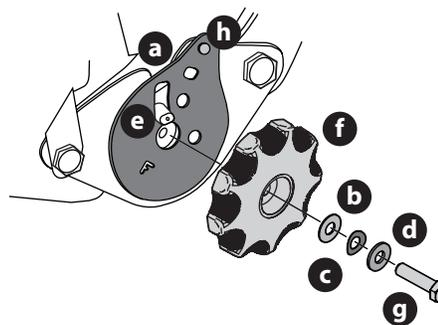

Figure 13
7. Remove the seat tilt knob assembly from the bag and install (Figure 13).
**NOTE:** Be sure to orient the recliner plate (a) and install the plastic washer (b), spring washer (c) and metal washer (d) (Figure 13). The plastic washer is on the inside.
8. Slide the recliner bearing plate (a) onto the recliner pin (e) (Figure 13).
10. Use a wrench to hand tighten the hex screw (g) until the recliner knob (f) is difficult to turn (Figure 13).
11. Gradually loosen the hex screw (g) until the recliner knob moves freely. Do not loosen the hex screw (g) more than one full turn (Figure 13).
12. Securely install the 1/4" nut onto the clinch-stud (h) and rotate the recliner knob to check the operation of the seat (Figure 13).